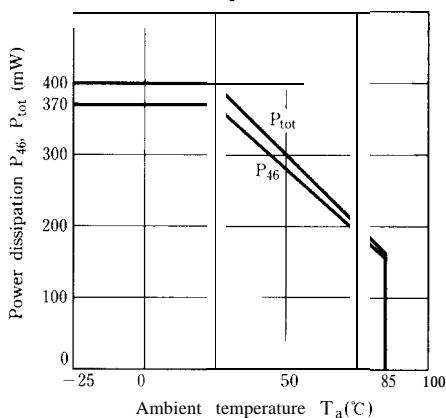

Fig. 4 Peak Forward Current vs. Duty Ratio
*1 Pulse width ≤ 100 μs, Duty ratio = 0.001 (Refer to Fig. 4)